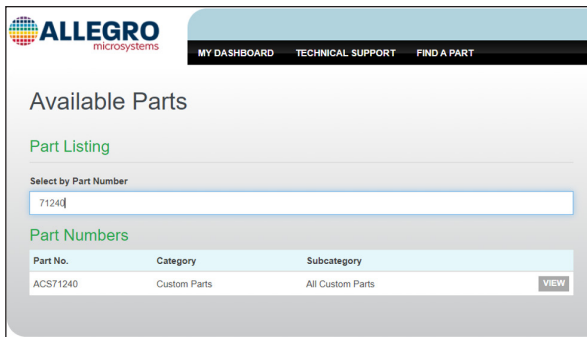

Figure 5: “View” next to “ACS71240” search result
- Click “View” next to the ACS71240 search result as shown highlighted in Figure 5.